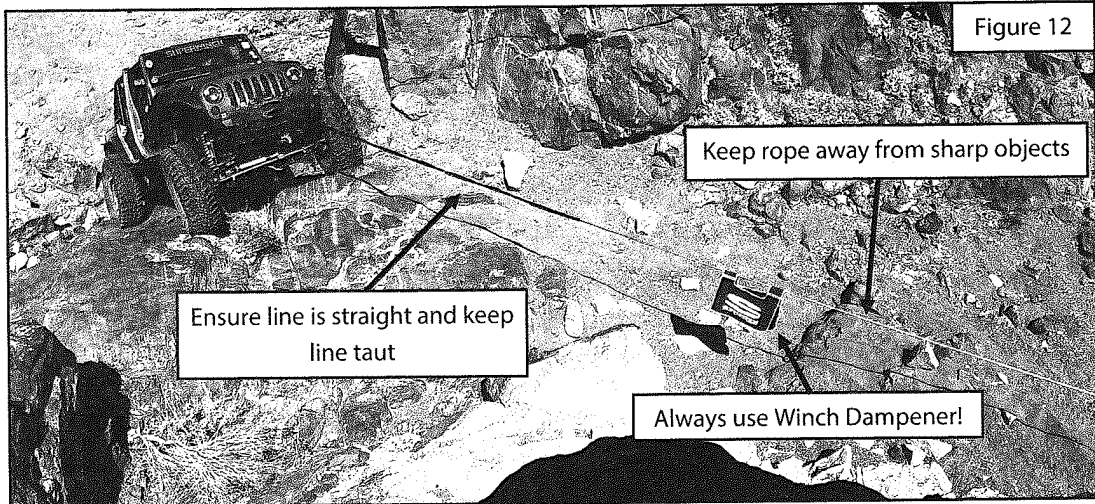

Figure 12
3. While slightly pulling up on the motor body, rotate the motor to the desired clocking position. **Note: There are four positions total to rotate the motor to: 1 o'clock (stock), 3 o'clock, 11 o'clock, and 12 o'clock position. See Figure 12.**